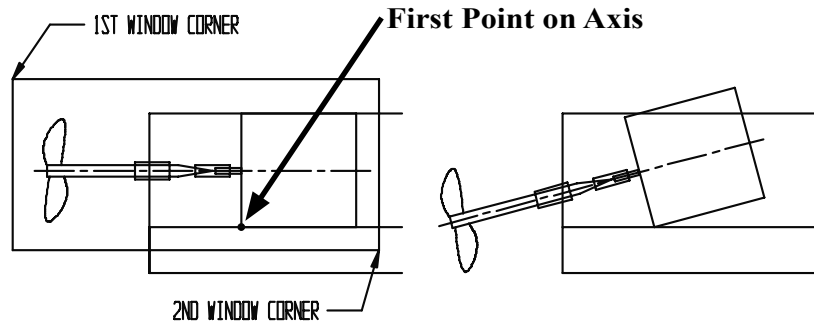

FIG. 11
Step 6. In the Side View, window around the lines that make up the motor and propeller. To window, move the cursor to just outside the top left corner of the prop and click to start the 1ST WINDOW CORNER, **Fig. 11**. Stretch the window to surround the propeller and motor. Click to set the 2ND WINDOW CORNER.
Step 7. To indicate first point on axis, click the bottom rear corner of the motor, coordinates **(.8, -2.6)**, **Fig. 11**.